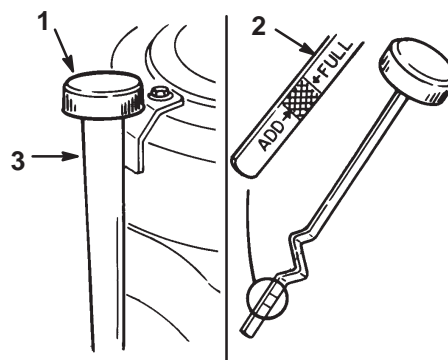

Figure 24
2. Clean around the oil dipstick (Fig. 24) so dirt cannot fall into the filler hole and damage the engine.
3. Unscrew the oil dipstick and wipe the metal end clean (Fig. 24).
4. Slide the oil dipstick fully into the filler tube, do not thread onto tube (Fig. 24). Pull the dipstick out and look at the metal end. If oil level is low, slowly pour only enough oil into the filler tube to raise the level to the full mark.
5. Slowly pour approximately 80% of the specified oil, on page 22, into the filler cap (Fig. 24). Now check the oil level; refer to Checking Oil Level, page 22. Slowly add additional oil to bring it to the full mark.